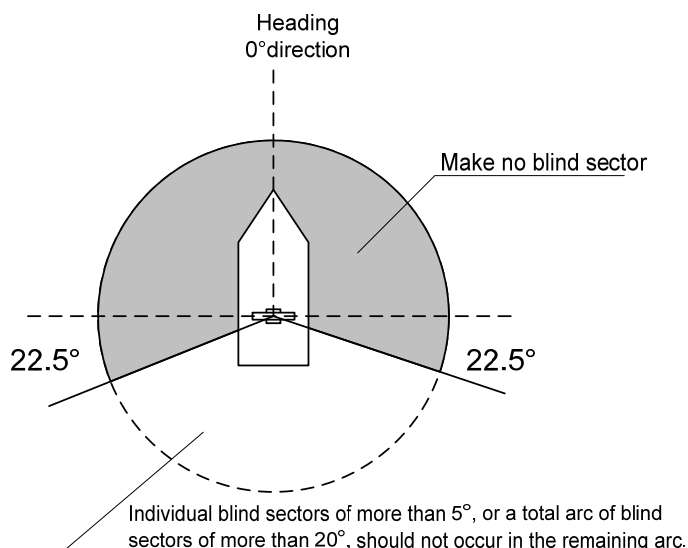

Fig 2-19 Ensuring view angle
- Minimize the blind sector, and ensure the adequate view angle so that the blind sector does not exist in the range 22.5° from side to rear (**Fig 2-19 Ensuring view angle**). Specifically, ensure a sufficient view field in the straight front (relative bearing 000°). See "SN.1/Circ.271 6.3(c)".
- Individual blind sectors of more than 5°, or a total arc of blind sectors of more than 20°, should not occur in the remaining arc, excluding the arc in **Fig 2-19 Ensuring view angle**. See "SN.1/Circ.271 6.3(d)".